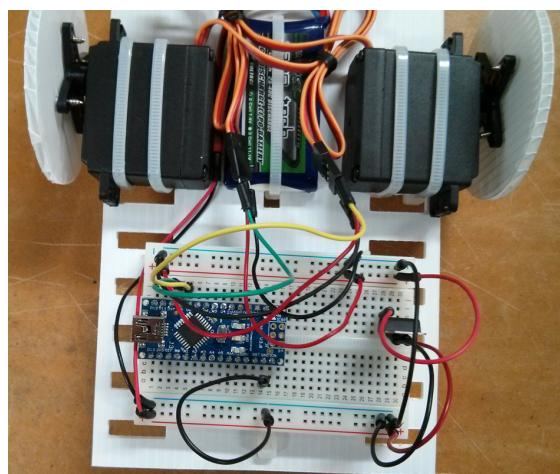

Figure 1-8 Servo wiring
9. The servos can be attached to the front power rail with voltage and ground going to each. The left servo signal wire goes to pin 9 and the right servo signal wire goes to pin 8 on the Arduino, as shown in Figure 1-8.